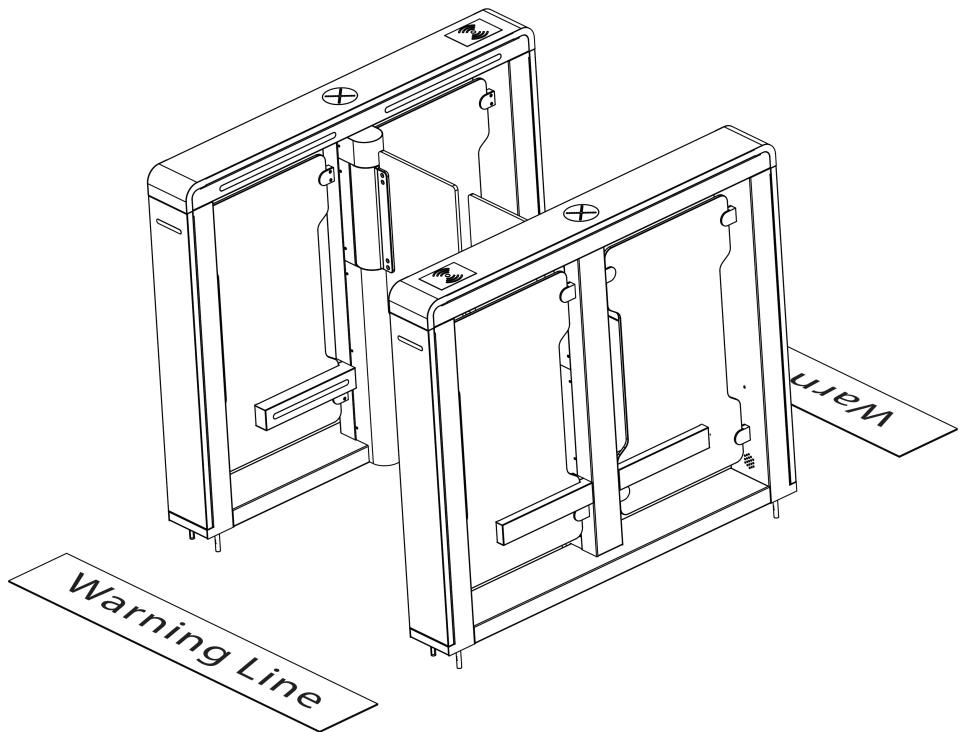

Figure 2-3
- ◆ It is recommended that a warning line be marked on the ground after installing the device, so as to prompt the pedestrian to stand behind the warning line when swiping the card.as shown in Figure 2-3: